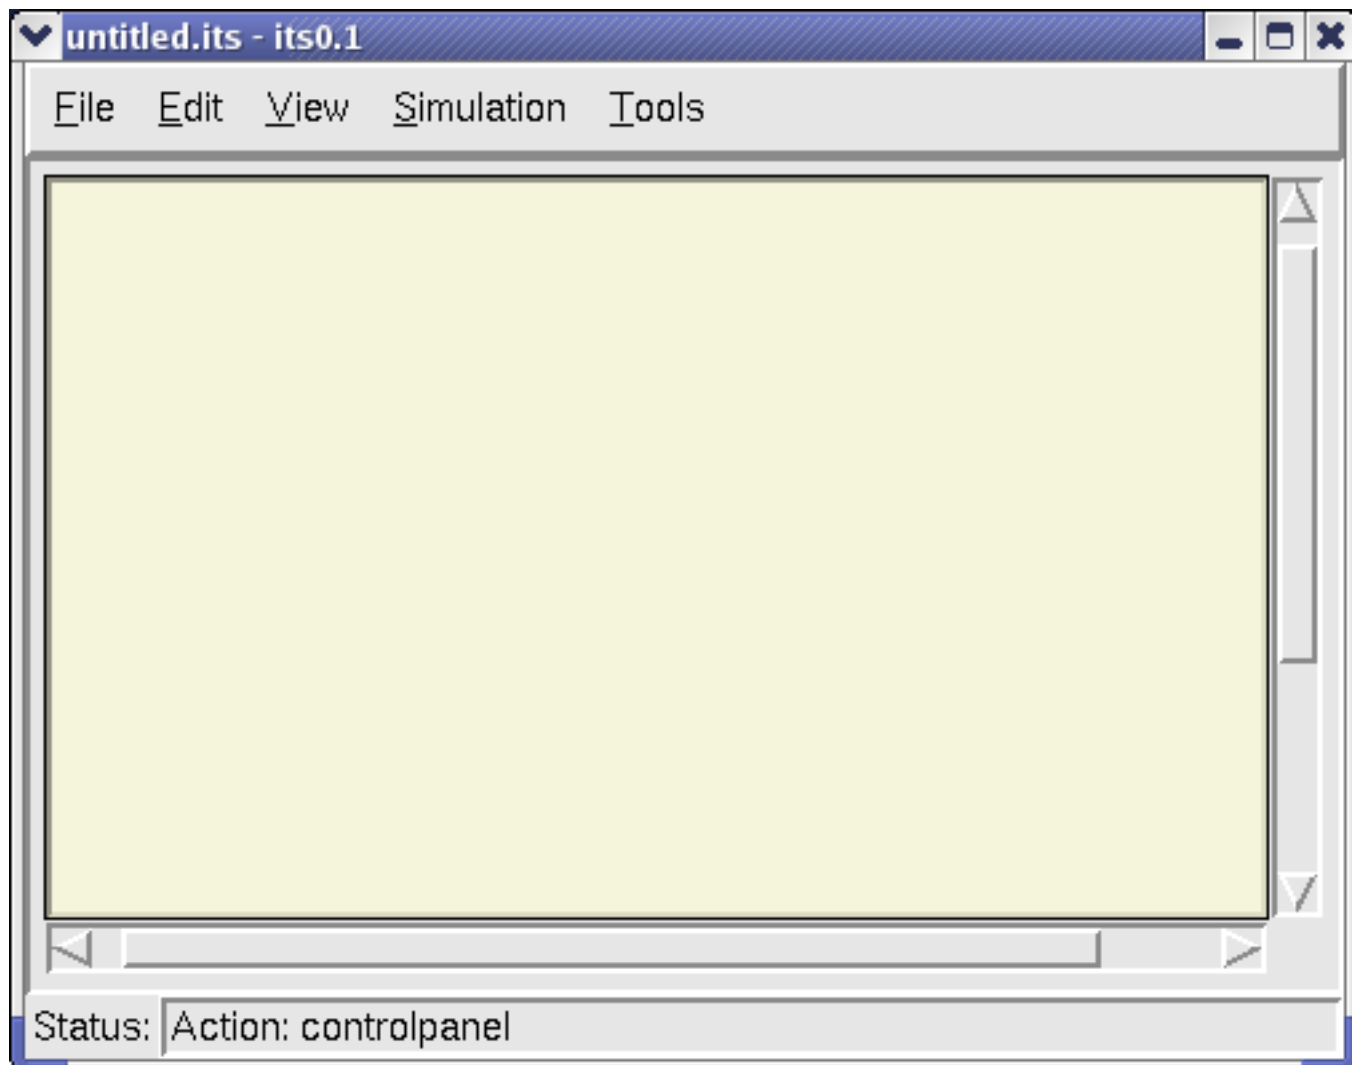

Figure 2: *iTSMAITMain* window
3. Open the **its-0.51** directory and start the simulator by clicking on the file **its** (with the snake icon). If you can see the main window of the simulator (see Fig. 2), you are ready to proceed with the tutorials in Sec. 3.
3. A new subdirectory called “its-0.51” has been created; open it and start the simulator with `$ python its.py`. For command line option type `$ python its.py -h`. If you see the main window of the simulator (see Fig. 2) then the installation is successfully terminated. Otherwise, check out the messages on the terminal to see whether there is a package missing.
browser. Then you should see the empty main window as shown in Fig. 2. Now you can continue with one of the short tutorials below.